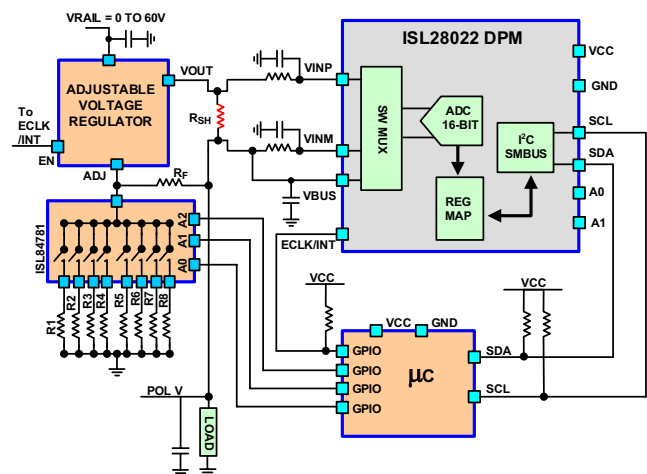

FIGURE 2. ADJUSTABLE POINT-OF-LOAD MONITORING DESIGN IDEA
Many applications require unique voltages to optimize a circuit's potential. Figure 2 is a microcontroller selectable Point-of-Load (POL) circuit. The circuit is very similar to the POL monitor discussed previously. The General Purpose Input Output (GPIO) bits of the microcontroller controls a multiplexer, which connects a gain setting resistor to the adjust (ADJ) pin of the regulator. The feedback resistance (RF), the multiplexer switch resistance and the value of the gain setting resistor (R1 to R8) determine the regulated output voltage (POL\_V) to the load. Equation 2 is a generic formula to determine the regulated POL\_V.